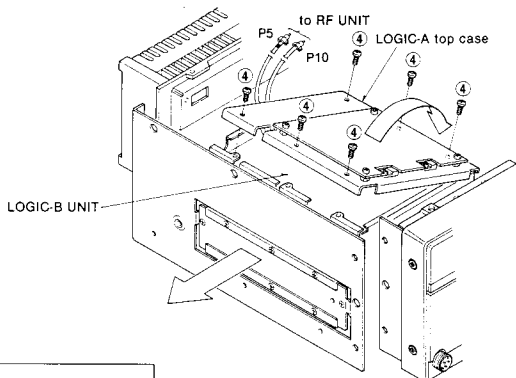

Fig. 2
6. Remove 6 screws ④ from the metal casing above the LOGIC-A UNIT and gently pull off the casing. Remove the connectors on the LOGIC-B UNIT.
7. Gently pull out the PLL-A, B UNITS as shown in Fig. 2.